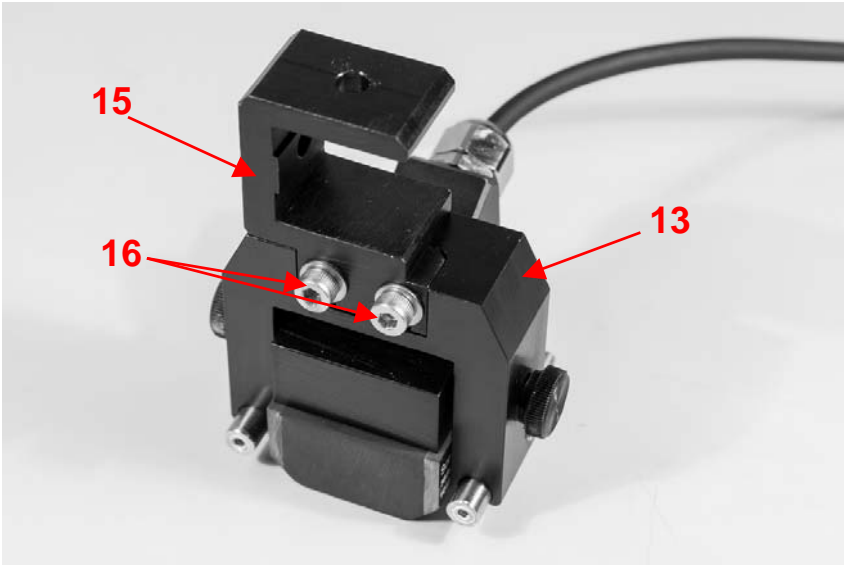

Fig.9
- 2. Attach fixture [15] to Probe Holder [13], and secure with screws [16] it is shown on the Fig.9